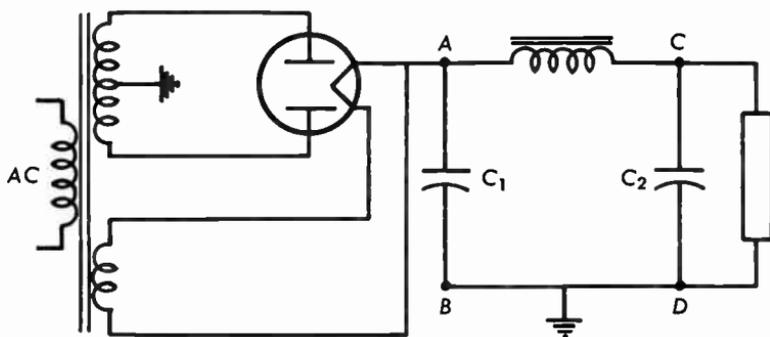

Fig. 9.03a Full-wave rectifier with filter circuit.
9.03 The rectifier type 80 is used in the rectifier circuit of Figure 9.03a. The line voltage is 117 volts, 60 cycles, the secondary high voltage is 800 volts from plate to plate, $L = 25$ henries, 2000 ohms, $C_1 = 4$ microfarads, $C_2 = 8$ microfarads. The d-c load draws 80 milliamperes from the rectifier. What is the *approximate* ripple voltage at AB ? At CD ?